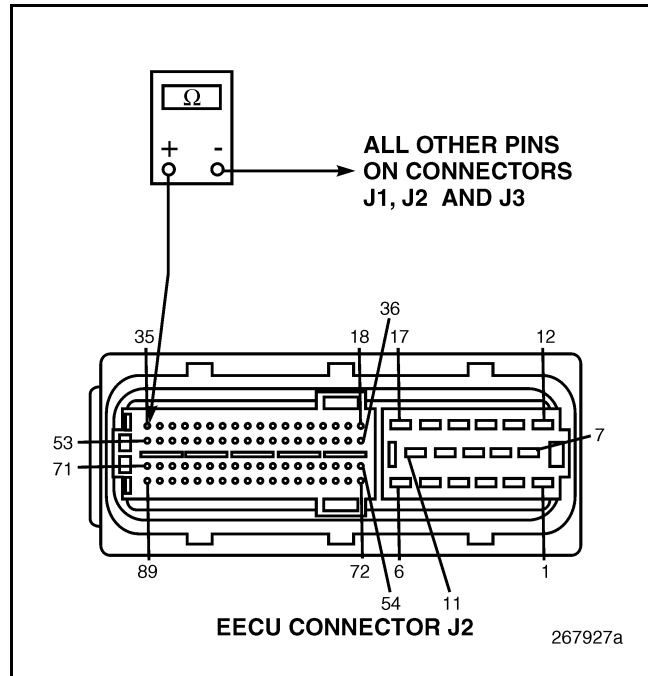

Figure 188
4. Check for continuity between EECU harness connector J2 pin 35 (reference voltage line) and all other pins in EECU harness connectors J1, J2, and J3 (see Figure 188).